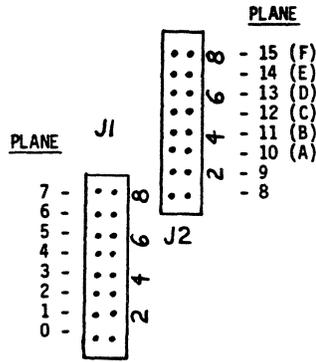

figure 2
6. Refer to figure 2. Locate header J1 (image 0) and move the shorting plug to the pins that correspond to the plane number (i.e., pin 5 for plane 4). Be careful to note that the pin number is not the same as the plane number. This selection must be for the same plane number that the switch is set for. Header J2 is for a second image. There should be no shorting plugs on this header if the card is being set for image 0.